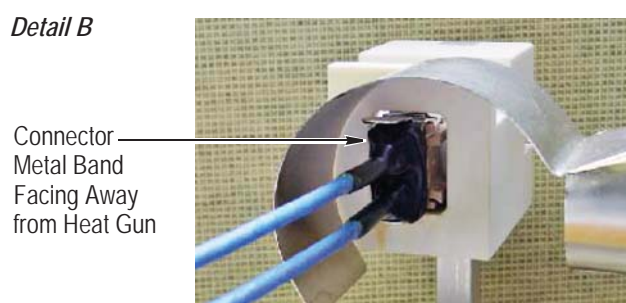

Figure 15
- e. Place Reflector TG-13/A-170-HG-RFL-LARGE onto the Steinel HL1910E heat gun, or equivalent heat gun, using the reflector adapter ring. Make sure the adapter ring and reflector are fully seated on the heat gun. See Figure 15, Detail A.
- f. Place the heat gun into the cut-outs in the base of the fixture as shown in Figure 15, Detail A. Make sure that the reflector is squarely against the face of the connector positioning block. If it is not square, rotate the reflector into position.
- i. Insert the plug connector into the opening in the connector positioning block with the metal band facing AWAY FROM THE HEAT GUN. See Figure 15, Detail B. Heat the plug connector for **90 seconds**. Do not start timing until the plug connector is fully seated in the connector positioning block. Verification can be obtained through the visual inspection slot.